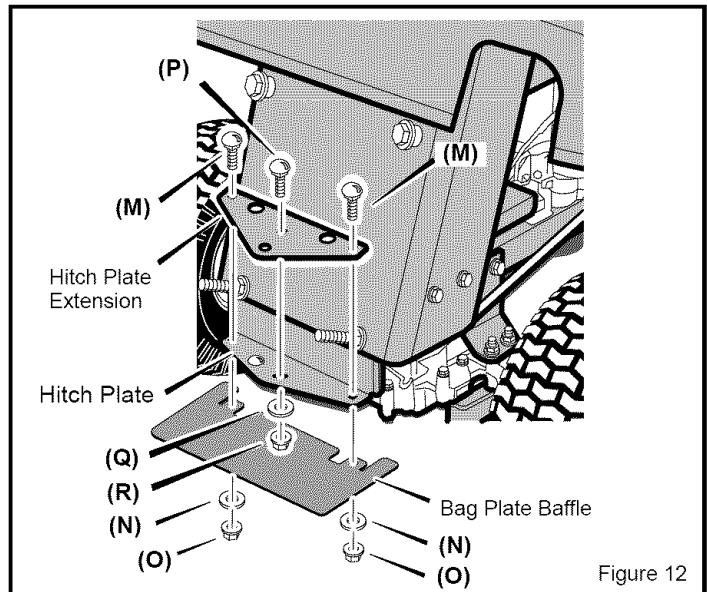

Figure 12
1. Assemble the sides of the **hitch extension plate** to the top of the **hitch plate** (see Figure 12). Assemble the **bag plate baffle** to the bottom of the **hitch plate**. Secure with two bolts (M), two washers (N), and two nuts (O). Make sure to mount the washers (N) and nuts (O) under the **bag plate baffle**.